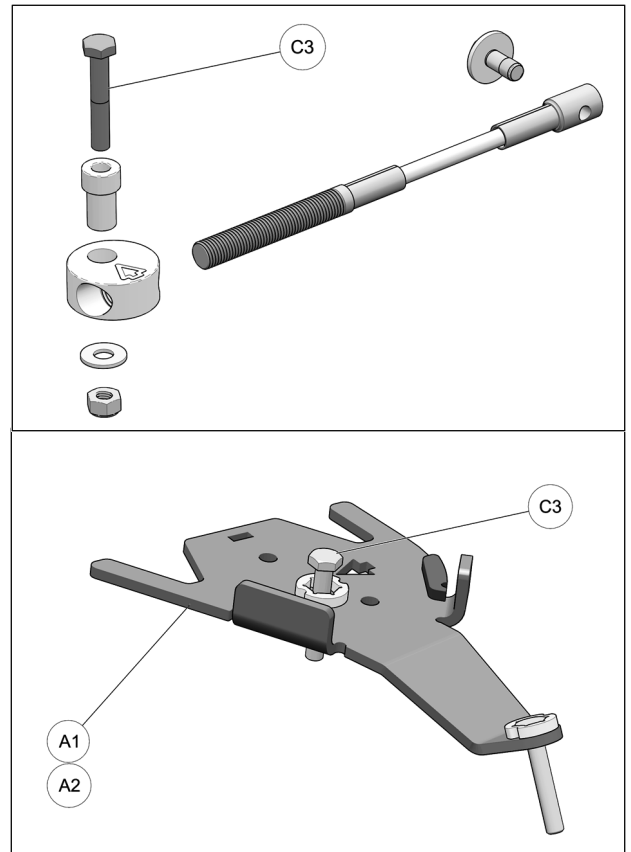

Fig. 20
9. Remove M10x60mm bolt (C3) from each steering limiter assembly kit and insert bolt in front anchor bracket (A1-A2) hole shown in Fig. 20